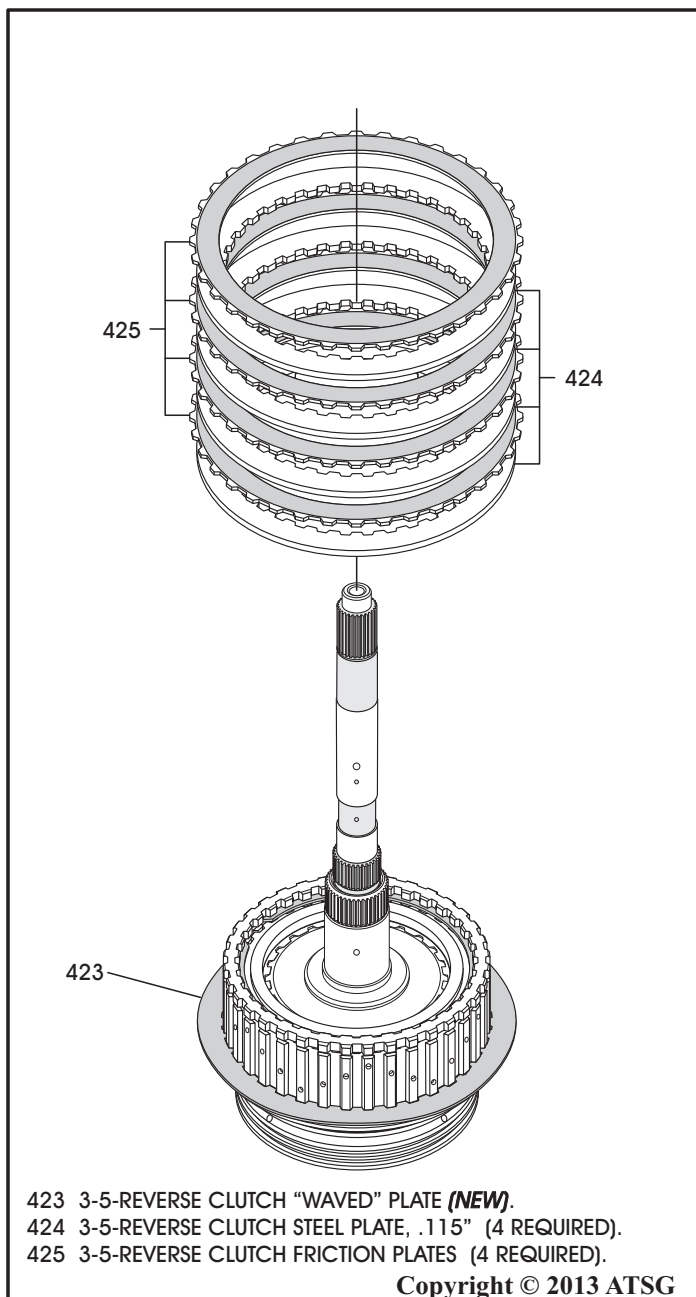

Figure 155
43. Install the 3-5-Rev clutch plates beginning with a steel plate and alternating with friction plates until you have installed four of each, as shown in Figure 155.